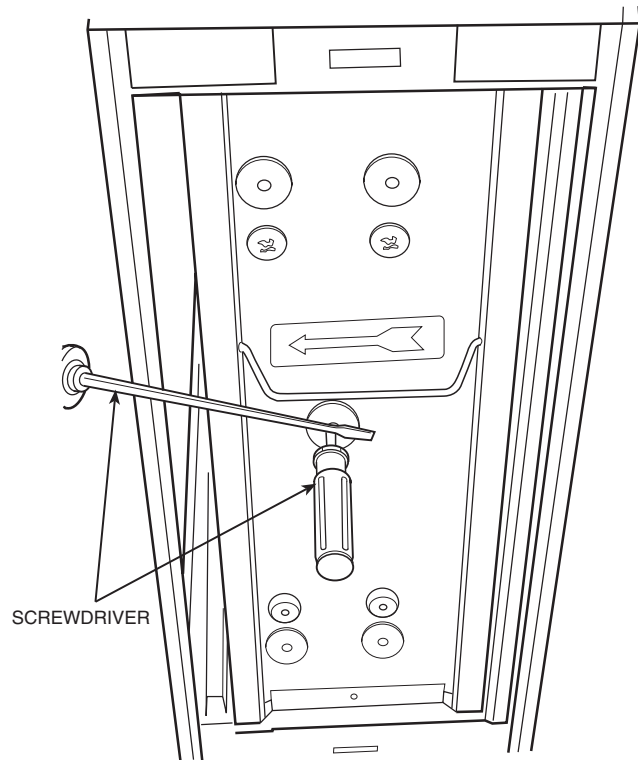

Fig. 8 — Bad Contact Test
2. Place a screwdriver between plates of the cell, or place a small screwdriver into the hole in the end plate insulator and short with another screwdriver to cell end plate. See Fig. 8.